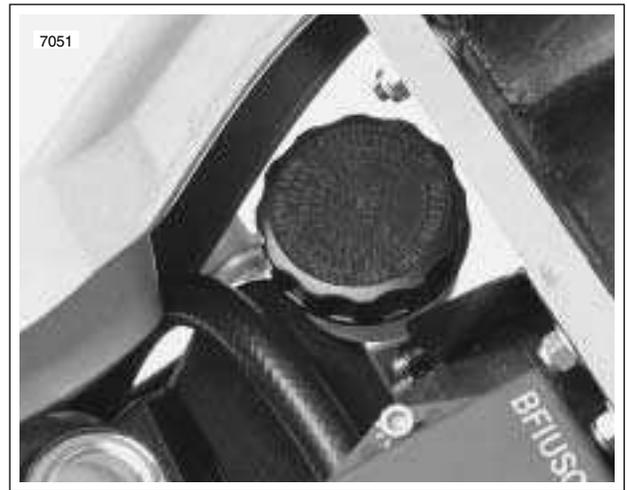

Figure 2-48. Rear Reservoir
5. See Figure 2-48. Verify proper fluid level in reservoir.